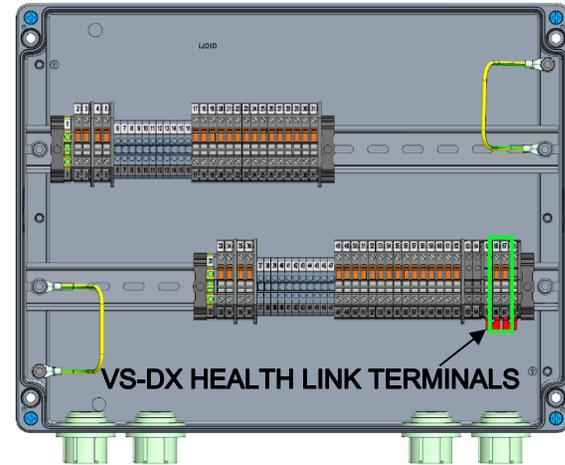

Figure 2-11. Health Link Terminals Inside VS-DX J-Box
28. Open knife terminals [HEALTH LINK] **(terminals # 66 and 67, 2 terminals), valid for either VariStroke A or VariStroke B disassembly** (Figure 2-11) [notate result in Checklist: ID #18].